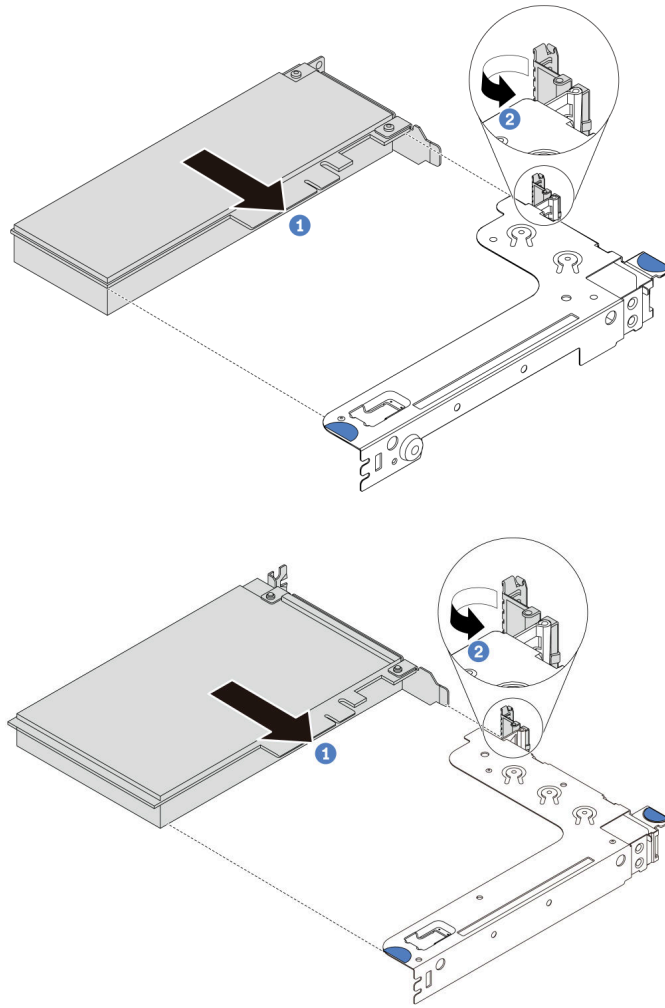

Figure 108. Riser 1 assembly (LP/FHFL) installation
**Note:** The intrusion switch can only be installed in riser 1 assembly (LP/FHFL). The riser bracket in which the intrusion switch is installed might be different from the illustration below, but the installation method is the same. For different types of supported riser bracket, see Figure 108 “Riser 1 assembly \(LP/FHFL\) installation” on page 129.